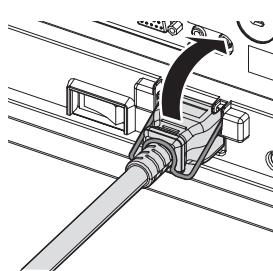

Fig. 1
- 1) Confirm that the power cord holder is raised so that the power cord can be inserted. (Fig. 1)
- 2) Raise the power cord holder fixing the power cord upward. (Fig. 1)